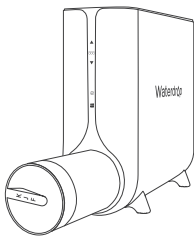
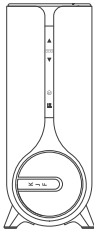

Figure 24
Figure 25
- (3) Install the new filter. Insert the new one into the filter barrel, with the filter handle perpendicular to the display bar (Figure 24) . Then rotate it 90° clockwise until the filter handle is in line with the display bar (Figure 25).